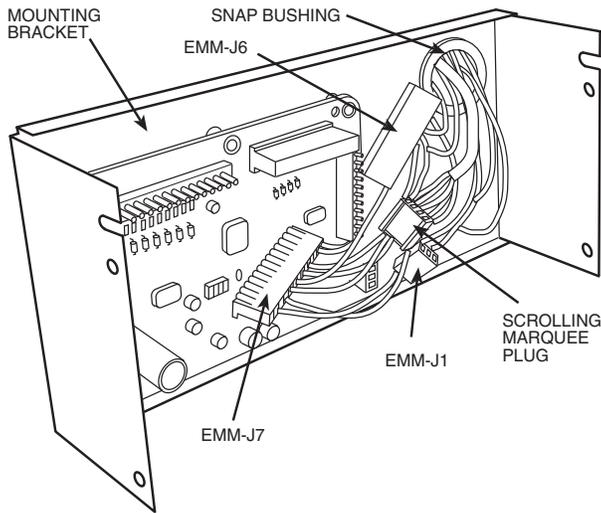

Fig. 2 — Wiring Harness and Mounting Bracket
7. Thread CEM and SDU plugs of accessory wiring harness assembly, Scrolling Marquee plug, and circuit breaker wires from the back side of the CEM mounting bracket, through the snap bushing. See Fig. 2. For 48/50A020-060 use harness assembly 50EJHLRAE-AA00.